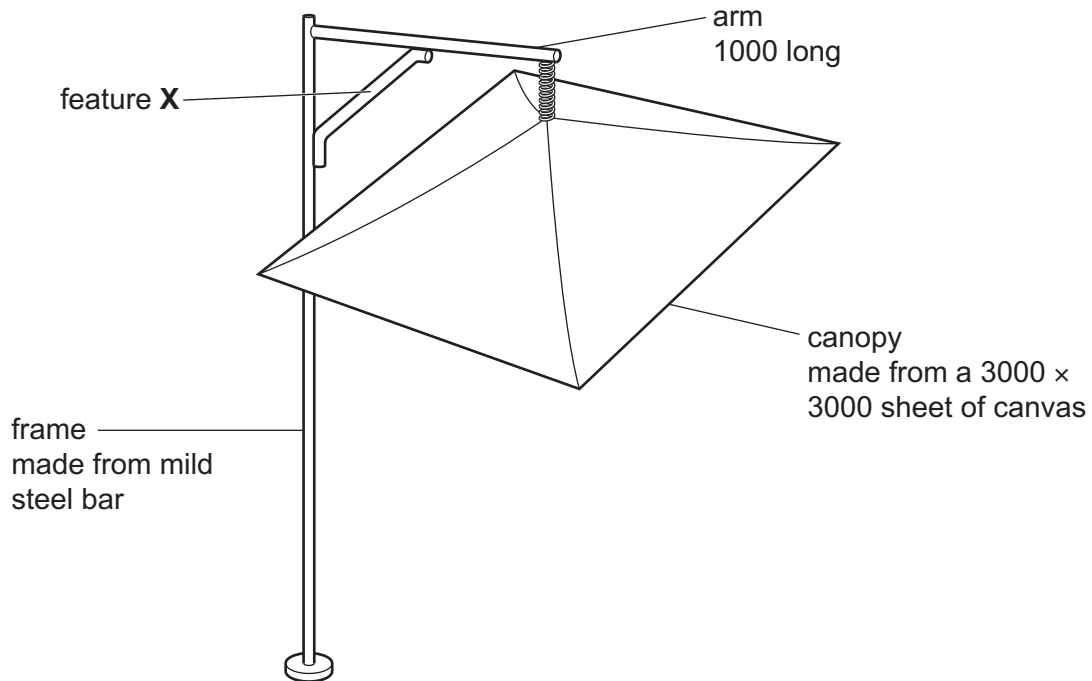

Fig. 4.1
- 4 Fig. 4.1 gives details of an incomplete design for a sunshade. The canopy hangs from the mild steel frame.